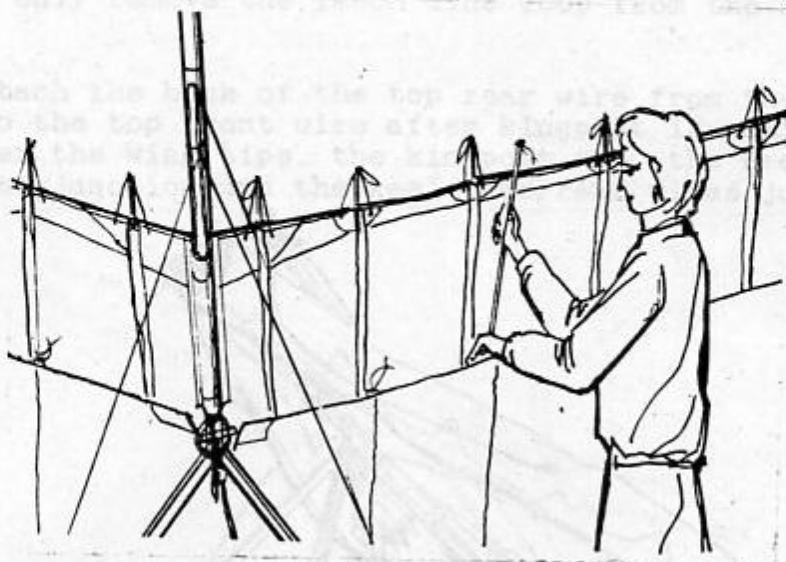

Fig. 5.1.2.
3. Set the glider on the control bar and on the nose and remove the bottom surface battens (Fig. 5.1.2).
2. Set the glider on the control bar and on the nose and remove the bottom surface battens (Fig. 5.1.2).